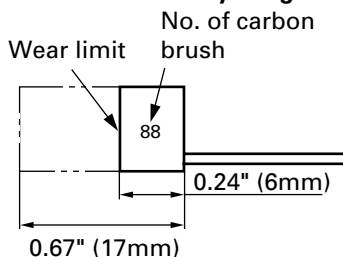

Fig. 6
4. Inspecting the carbon brushes (Fig. 6)
NOTE: Use HITACHI carbon brush No. 88 indicated in Fig. 6.